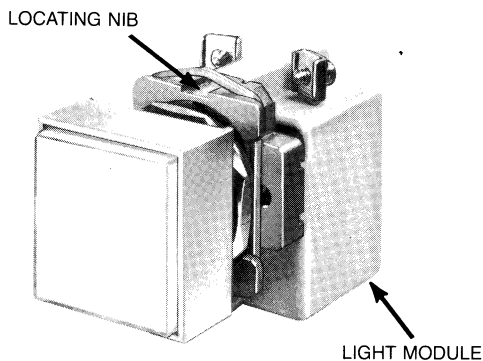

FIGURE 1
- d. Position and mount the light module on basic operator as shown in Figure 1 below.